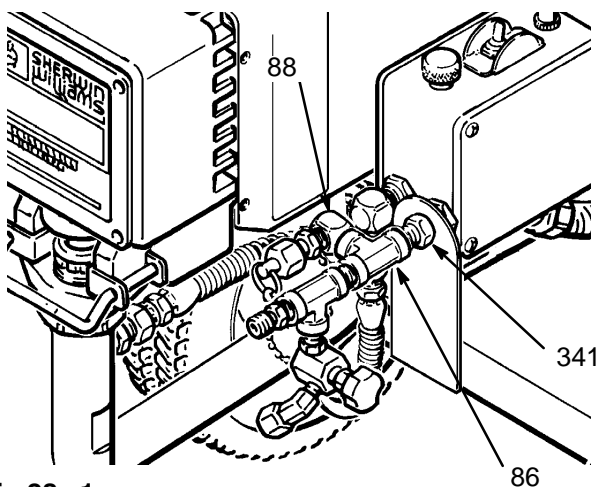

Fig 28-1
2. Refer to the above list of tools and equipment needed. Remove the elbow (88). Holding the nipple (341) firmly with a wrench to prevent it from turning, rotate the tee (85) up. Install the fluid-filled pressure gauge in the tee. See Fig 28-1. Connect the gun to the **new** test hose and connect the hose to the sprayer outlet.